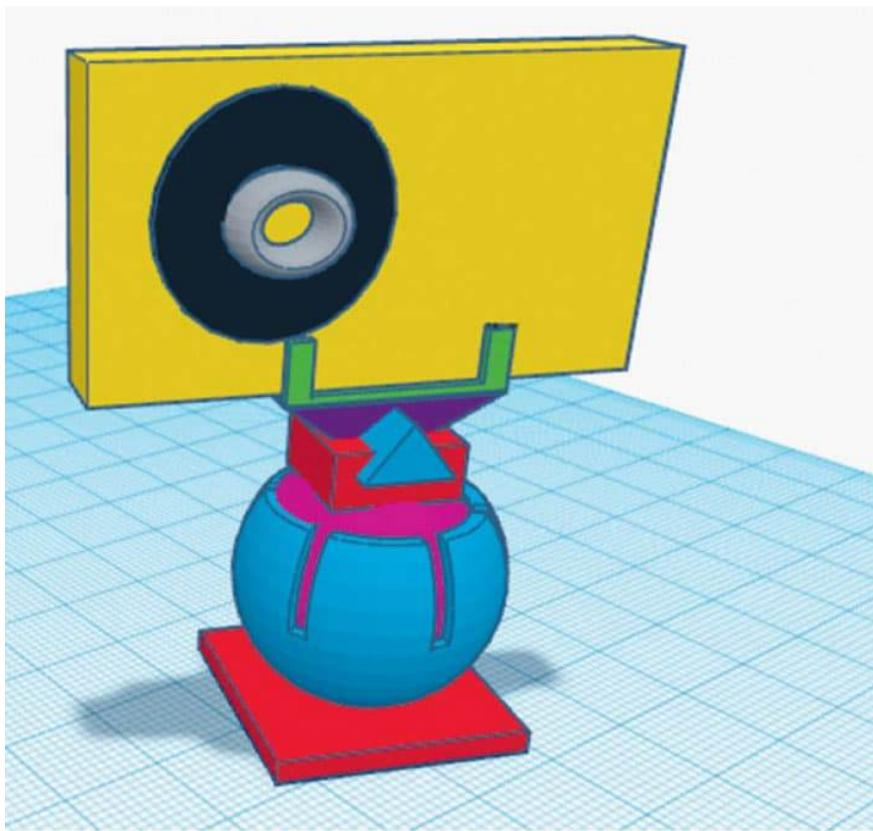

FIG. 8: The assembled parts of the camera holder.
- Test the product for its ability to mount and pivot a camera 360 degrees. Assemble as shown in fig. 8.